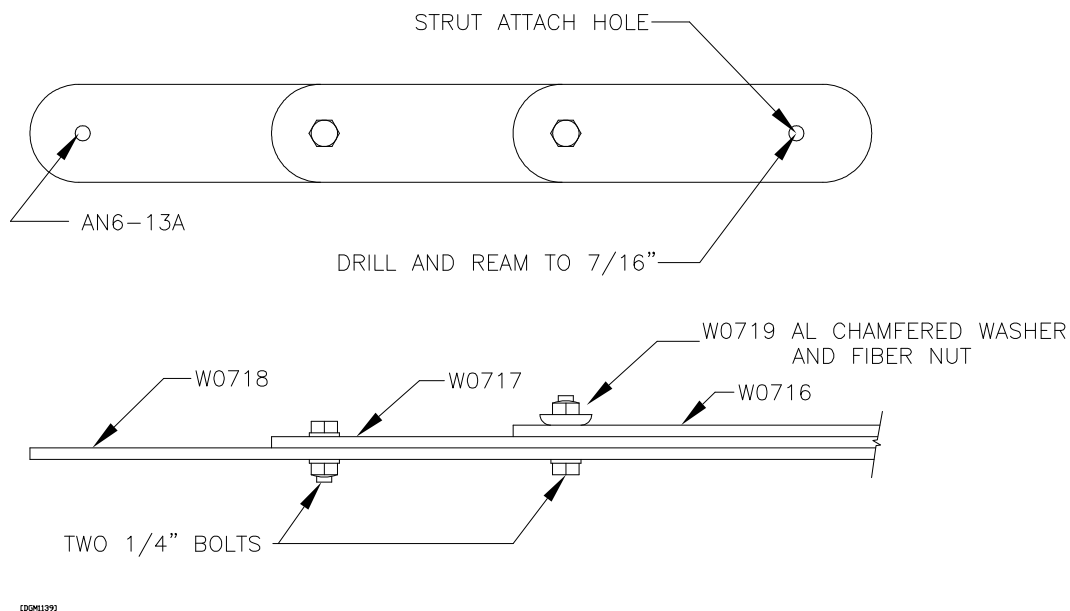

Fig. 6.1.21
48) Bolt together the three Wing Strut Fittings (W0716, W0717 and W0718) using 1/4" bolts. These bolts are used only to hold assembly together for drilling. Figure 6.1.21.
49) Drill and ream out the Strut attach hole to 7/16". Figure 6.1.21.